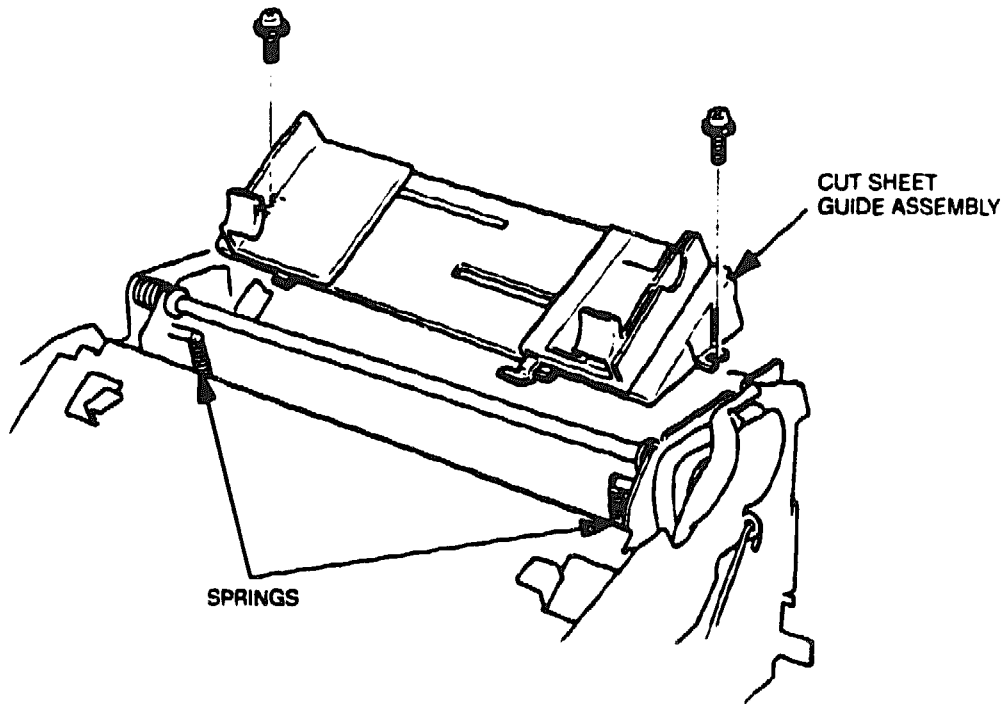
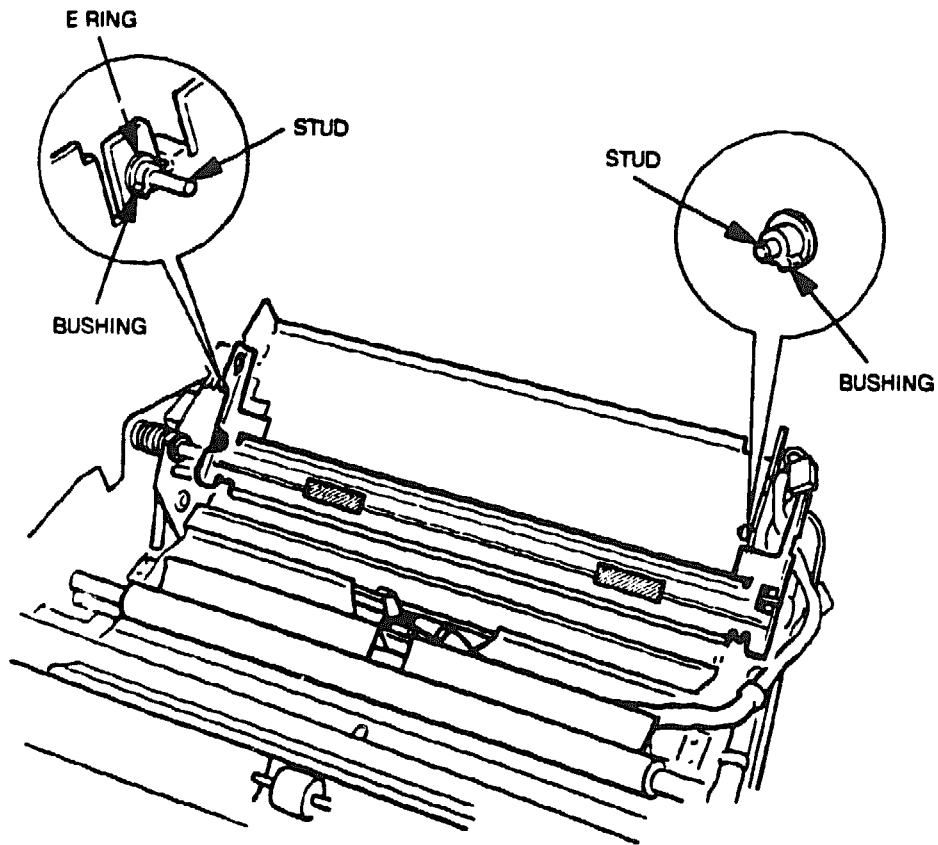

Figure 6-52 Cut Sheet Guide and Springs
Figure 6-53 E Retaining Ring and Bushings
4. Remove the two springs from the studs on the left and right lower side plates (see Figure 6-52).
5. Using a flat-tip screwdriver, remove the E retaining ring shown in Figure 6-53 that secures the lift plate to the stud on the lower side plate (L). Then remove the bushings from the studs on the lower side plates (see Figure 6-52).
When replacing the lift plate, the bushings should be positioned as shown in Figure 6-53.